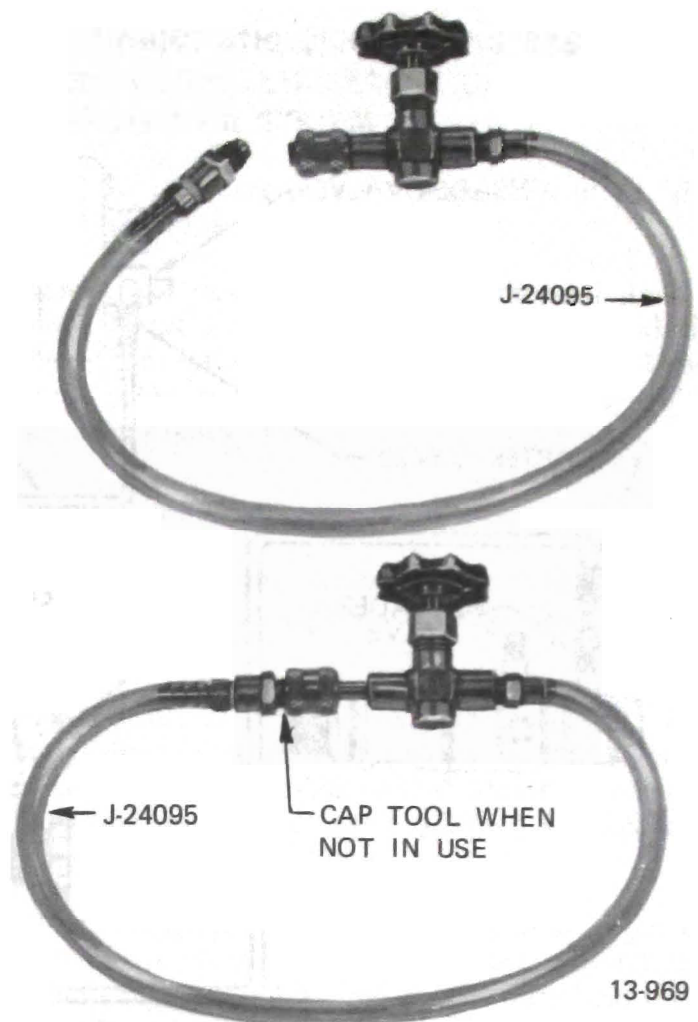

Figure 13-20 Oil Injector J-24095
f. Disconnect J-24095 and attach pick-up tube fitting to schraeder fitting to cap tool. See Figure 13-20.
6. Turn hand shut-off valves at low and high pressure gauges of gauge set to full clockwise position with vacuum pump operating, then stop pump. Carefully check low pressure gauge approximately for two (2) minutes to see that vacuum remains constant. If vacuum reduces, it indicates a leak in the system or gauge connections.